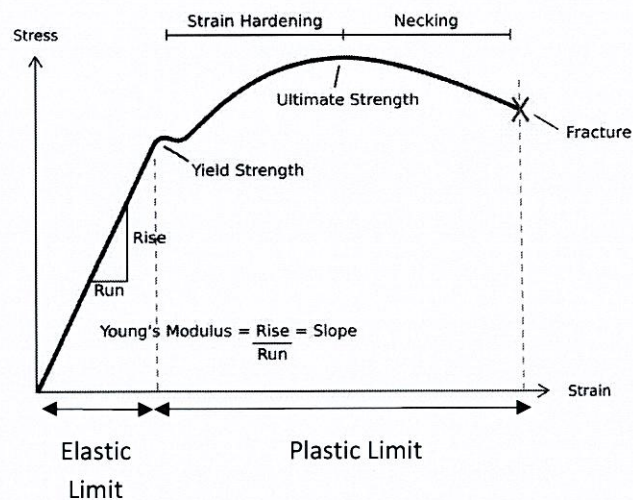

Figure 1(b)/ Rajah 1(b)
- CLO1 (b) Based on general shape of stress versus strain in common tensile test as shown in Figure 1(b) below, explain the condition at the following in the stress – strain curve.